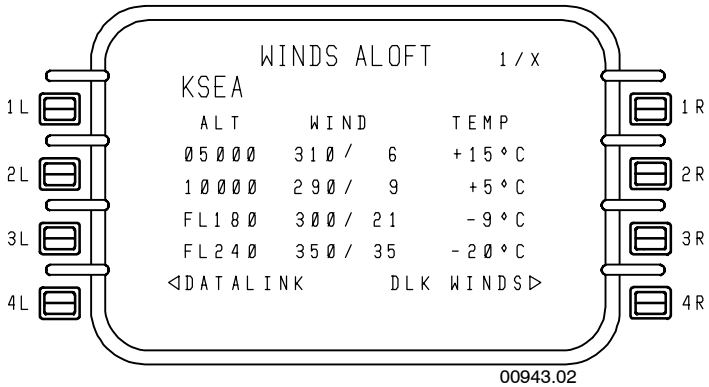

Figure 6-90
- **WINDS ALOFT 1/X** – This page is accessed from the DATALINK WINDS page. After receiving uplinked wind information, the desired waypoint is selected from the DATALINK WINDS page. The FMS will then display the WINDS ALOFT page. This is shown in Figure 6-90.